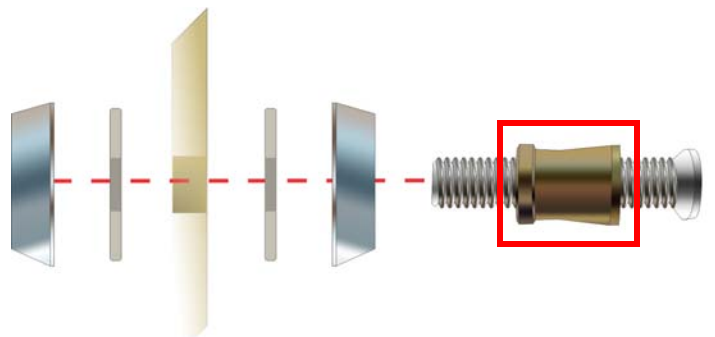

Figure 17. Installing Hardware
37. Arrange the hardware for handle installation as shown in Figure 17. Note the orientation of the tapered shafts that slide onto the bolts. The taper will narrow towards the glass door.